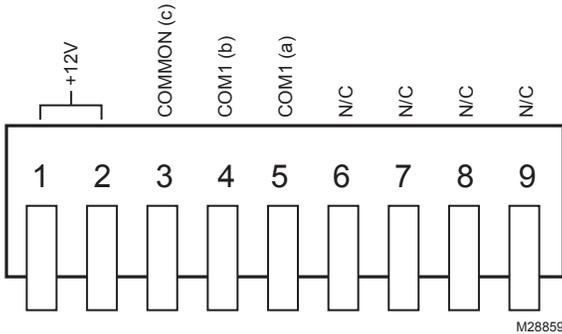
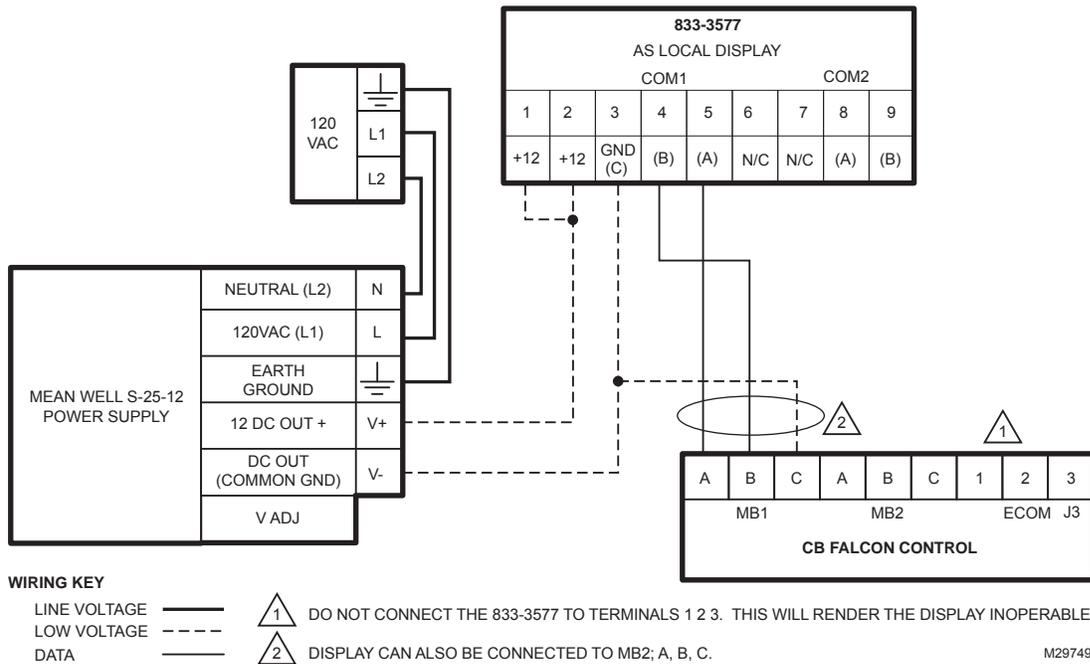

Fig. 2. 833-3577 OI Display connector terminals.
Fig. 3. 833-3577 wiring diagram.
See Fig. 2 for 833-3577 Display connector terminals. Wiring connections are listed in Table 1. See Fig. 3 for wiring.
12. Wire the connector to the power supply and the RS-485 cables using the wiring diagram in Fig. 3.